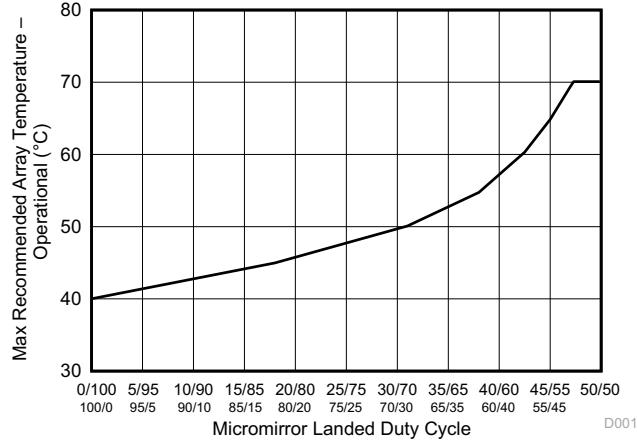

图 6-1. Maximum Recommended Array Temperature - Derating Curve
- (12) Per 图 6-1, the maximum operational array temperature should be derated based on the micromirror landed duty cycle that the DMD experiences in the end application. Refer to § 7.7 for a definition of micromirror landed duty cycle.
- (13) Long-term is defined as the usable life of the device.
- (14) Short-term is the total cumulative time over the useful life of the device.
- (15) The maximum marginal ray angle of the incoming illumination light at any point in the micromirror array, including at the pond of micromirrors (POM), should not exceed 55 degrees from the normal to the device array plane. The device window aperture has not necessarily been designed to allow incoming light at higher maximum angles to pass to the micromirrors, and the device performance has not been tested nor qualified at angles exceeding this. Illumination light exceeding this angle outside the micromirror array (including POM) will contribute to thermal limitations described in this document and may negatively affect lifetime.